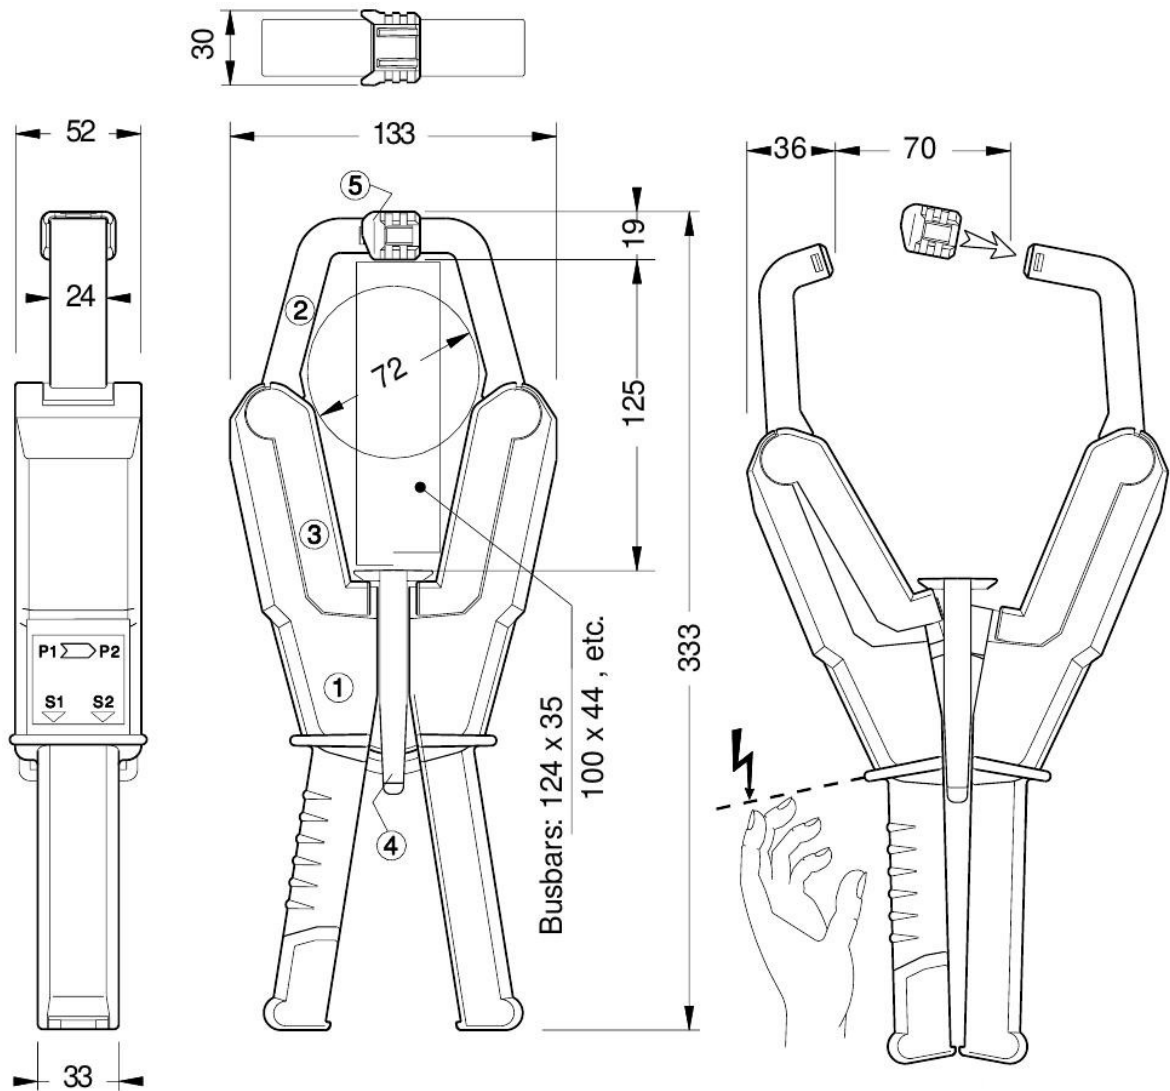

Figure 2.82: Dimensions in mm and protection against electric shock and short-circuit
- Use safety cover 'P' Figure 2.82 [→100] for protection against short-circuits during clamping!